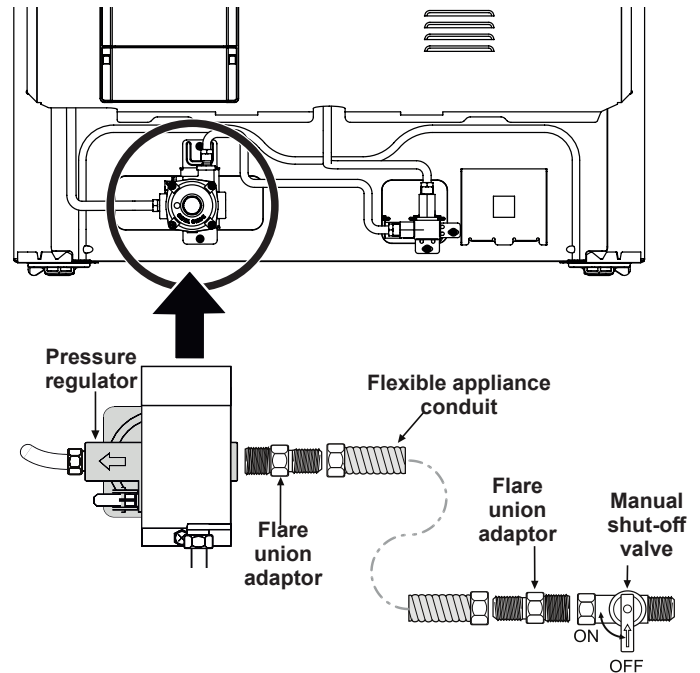

Fig. 8 - gas supply connections
- Install an external manual gas shut-off valve to gas supply line in an accessible location outside of range. Be sure you know where and how to shut off the gas supply to the range (See Fig. 8).
- Install 1/2" flare union adaptor to gas pressure regulator using no more than 15ft./lbs. of torque (Refer to Fig. 8).
- d. Install flare union adaptor to external manual shut-off valve (See Fig. 8).
- e. Attach flexible appliance conduit to flare union adaptor on shut-off valve (See Fig. 8).